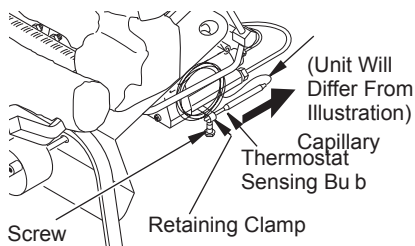

Figure 46 - Removing Thermostat Sensing Bulb
2. With 5/16" hex driver or socket, loosen the thermostat screw. Carefully slide the thermostat sensing bulb out of the retaining clamp (see Figure 46).